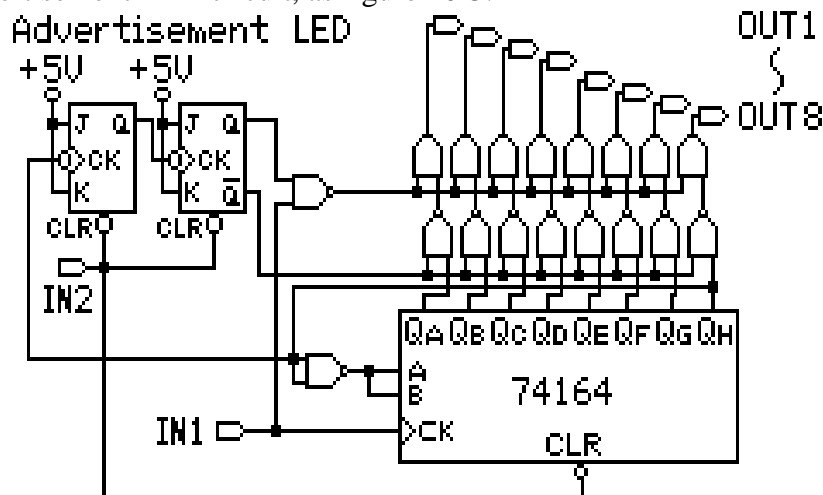

Figure 10-3
- Advertisement LED circuit, as figure 10-3.